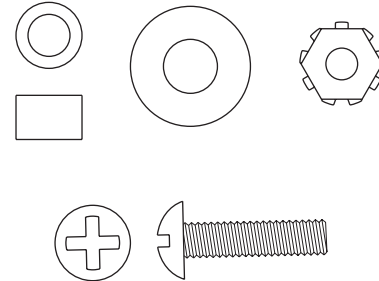

**Figure 11**
10. R3B models only: Place the briquet rack (7) over the blue flame burner only. See **Figure 11**.
11. R3B models only: Position the Char-Master briquet evenly on the briquet rack without overlapping. See **Figure 11**.